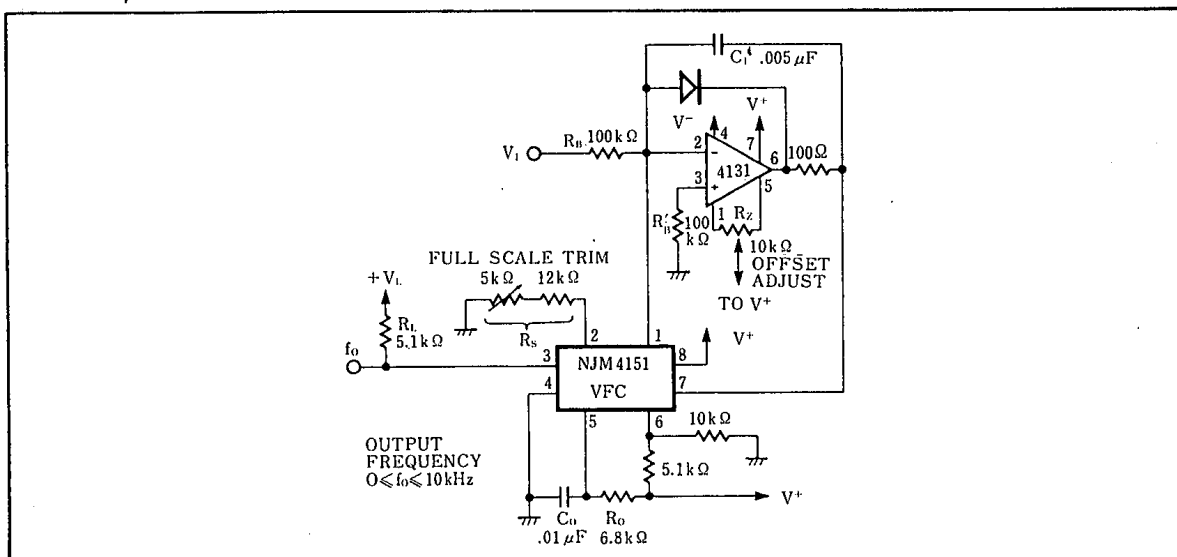

Figure 4. Precision Voltage-to-Frequency Converter
In this application (Figure 4) the 4151 VFC is used with an operational amplifier integrator to provide typical linearity of 0.05% over the range of 0 to -10V. Offset is adjustable to zero. Unlike many VFC designs which lose linearity below 10mV, this circuit retains linearity over the full range of input voltage, all the way to 0V.
1. Set  $R_s=14\text{k}\Omega$  or use a  $12\text{k}\Omega$  resistor and  $5\text{k}\Omega$  pot as shown in the figures. (The only exception to this is Figure 4.)
- b) For the precision mode circuit of Figure 4, set  $R_B=V_{10}/100\mu\text{A}$  where  $V_{10}$  is the full scale input voltage. Alternately the op-amp inverting input (summing node) can be used as a current input with full scale input current  $I_{10}=-100\mu\text{A}$ .
- I. Design a precision VFC (from Figure 4) with  $f_0=100\text{kHz}$  and  $V_{10}=-10\text{V}$ .